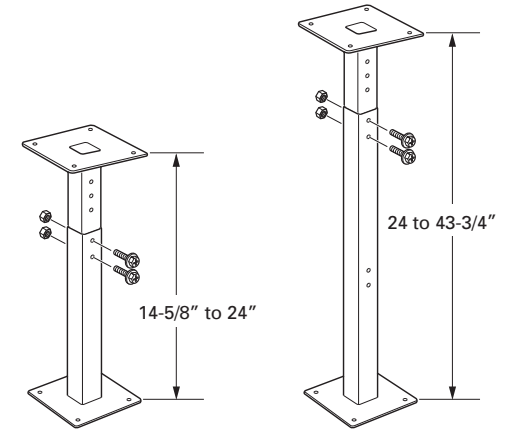

Figure 6
3. Assemble the Pole Pieces together making sure to orient them as illustrated in figure 3. Set the Pole Pieces to the desired length and secure the position using the two Round Head Philips 1/4-20 x 2-1/4 Screws and two 1/4-20 Lock Nuts. Refer to Figure 6.